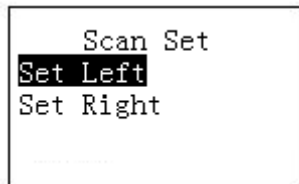

Figure 3-4
- a) Select Set and then click **【ENTER】** , you can see an interface shown as in Figure 3-4.